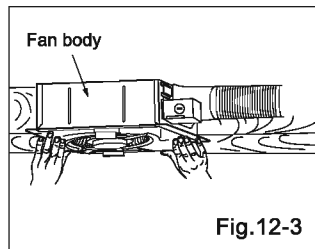

Fig.12-3
7. Insert the blower into the fan body. (Fig. 12-3)